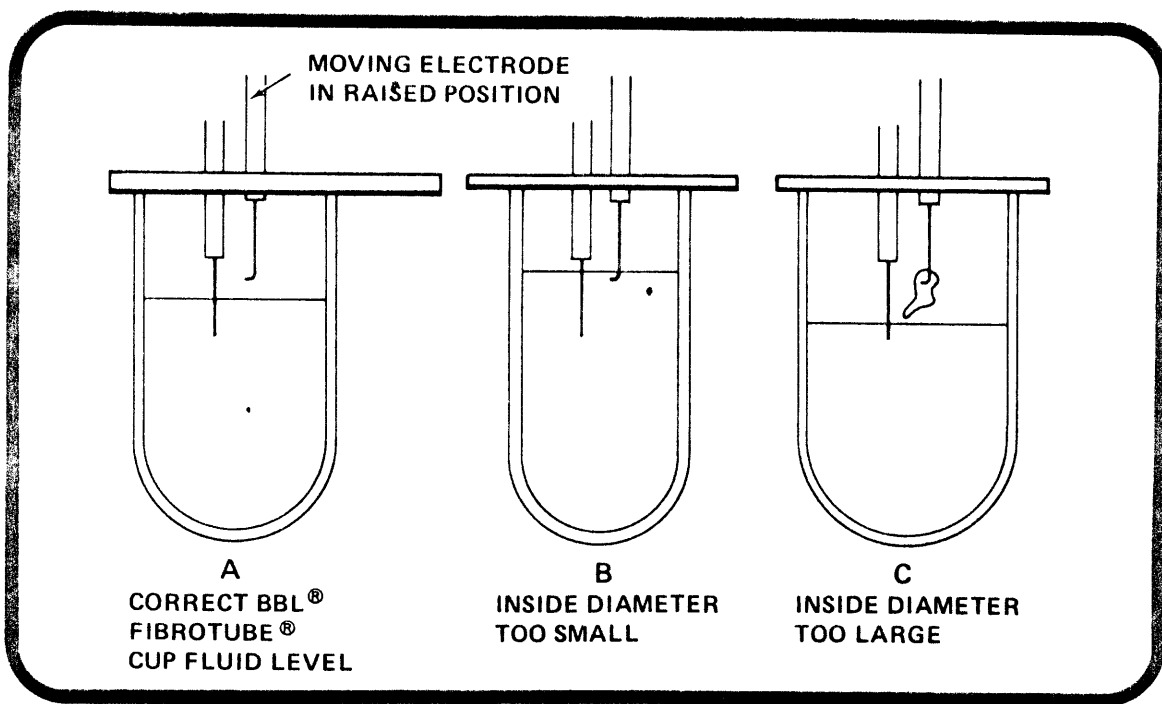

Figure 7-3
**Important:** If 0.3 ml total volume is placed within a competitive cup whose internal diameter is slightly smaller than the internal diameter of the **BBL® FibroTube®** cup, the liquid may rise to a higher level and bridge the 1.27 mm gap, thereby closing the circuit causing the **Fibrometer** to stop almost as soon as the probe electrodes drop into the cup (Figure 7-3). Conversely, if a 0.3 ml total volume is placed within a competitive cup whose internal diameter is slightly larger than the **BBL® FibroTube®** cup, then the liquid level will be considerably below the level obtained in the **BBL® FibroTube®** cup. With such a low liquid level, it is possible for the moving electrode to lift the clot above the liquid in the cup breaking the circuit; the **Fibrometer** will not stop (Figure 7-3). Both of these problems are best rectified by use of **BBL® FibroTube®** cups.